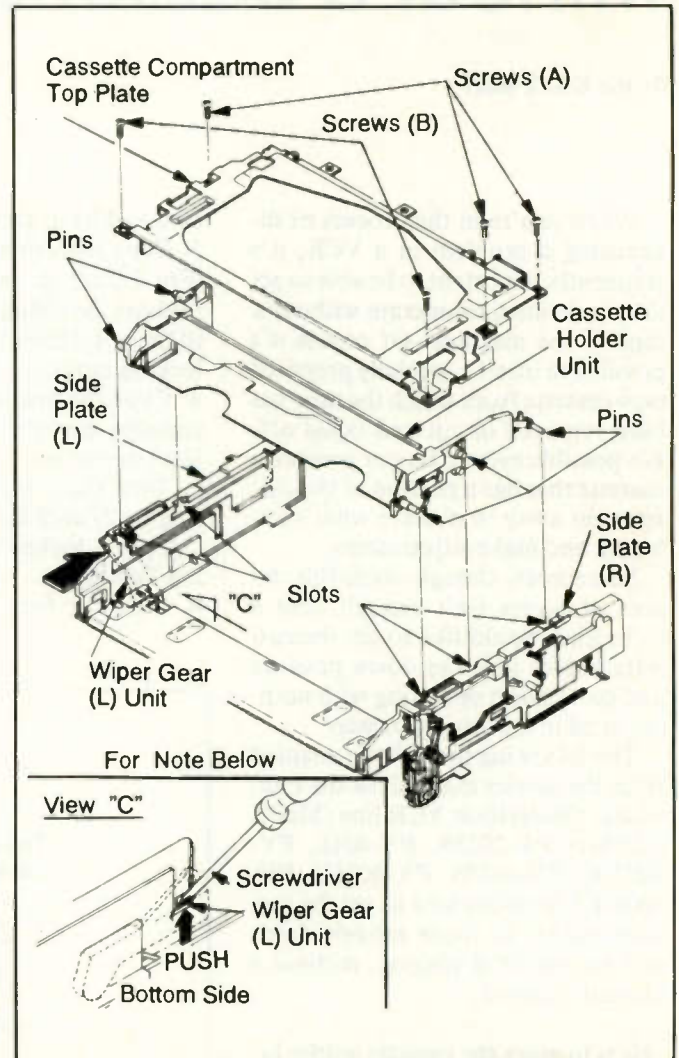

Figure 3.
Method 2. (An alternate method for loading with no cassette in the machine. Refer to Figure 3.
2. Then remove the cassette compartment top plate by removing 3 screws (A) and 2 screws (B). Remove the cassette holder unit by pushing the wiper gear (L) unit until the 5 pins of cassette holder unit clear the slots of the side plates (L) and (R) as shown in box in Fig. 3.
4. Push the wiper gear (L) unit to place the unit in the cassette down position (no tape) as shown in Fig. 3.
Note: If the cassette mechanism can not be placed in the Cassette-Up position when the STOP button is pressed, push the wiper gear (L) unit up using a screwdriver as shown in box Figure 3. Now push the Stop button to eject. ■